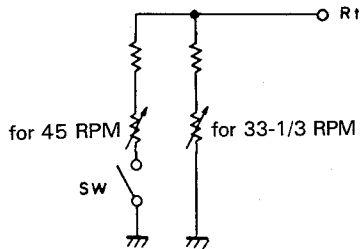

Fig. 10-8 Reference Frequency Switch
1. As the rotational speed is detected at a constant frequency, it is necessary to modulate the frequency into voltage (DC). This function is performed by the F-V modulator.
- The reference frequency switching mechanism is illustrated in Fig. 10-8. When the switch is OFF, the speed is fixed at 33-1/3 RPM. When the switch is ON, the 33-1/3 RPM semi-fixed resistor and the 45 RPM semi-fixed resistor form a para-connection, and the combined impedance determines the rotational speed. Therefore, after adjusting the rotational speed with the switch set to 33-1/3 RPM, it is necessary to readjust the speed with the switch set to 45 RPM. The reason for this arrangement is to prevent an unstable rotational condition from resulting when the speed switch is midway between the 33-1/3 and 45 RPM positions and both are OFF.